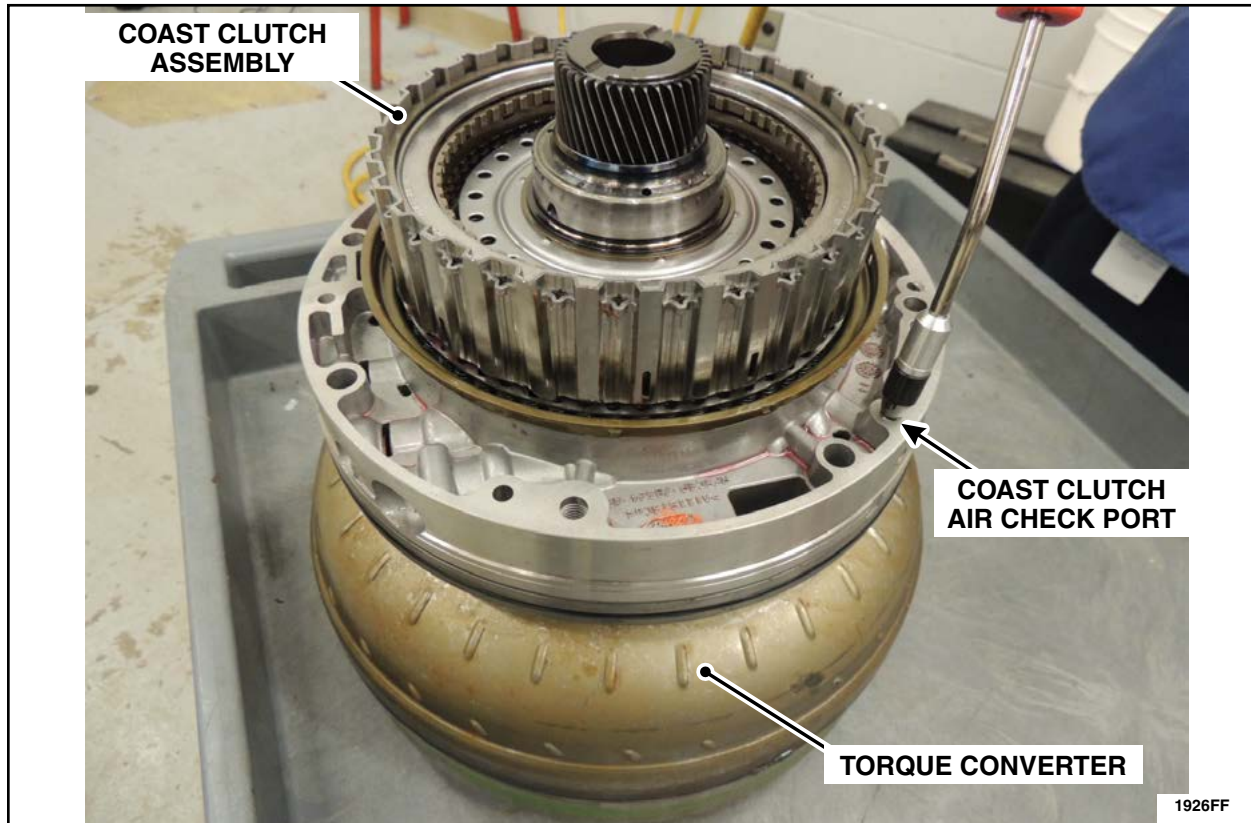

FIGURE 29
27. Air check the coast clutch assembly by stacking the torque converter, transmission fluid front pump and the coast clutch assembly as shown in Figure 29. Using a rubber tipped blow gun, apply 20 psi (138 kPa) of air to the coast clutch assembly test port on the transmission fluid front pump as shown in Figure 29. Unstack the transmission fluid front pump and the coast clutch assembly from the torque converter.